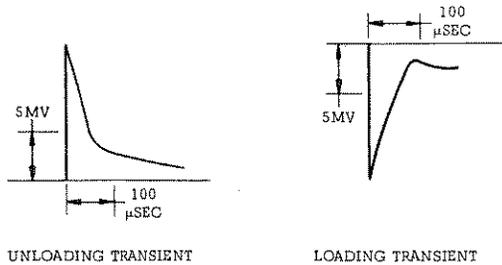

Figure 5-6. Transient Response Waveforms
d. Adjust 25K potentiometer until a stable display is obtained on oscilloscope. Waveform should be within the tolerances shown in Figure 5-6 (output should return to within 5 mv of original value in less than 100 microseconds).